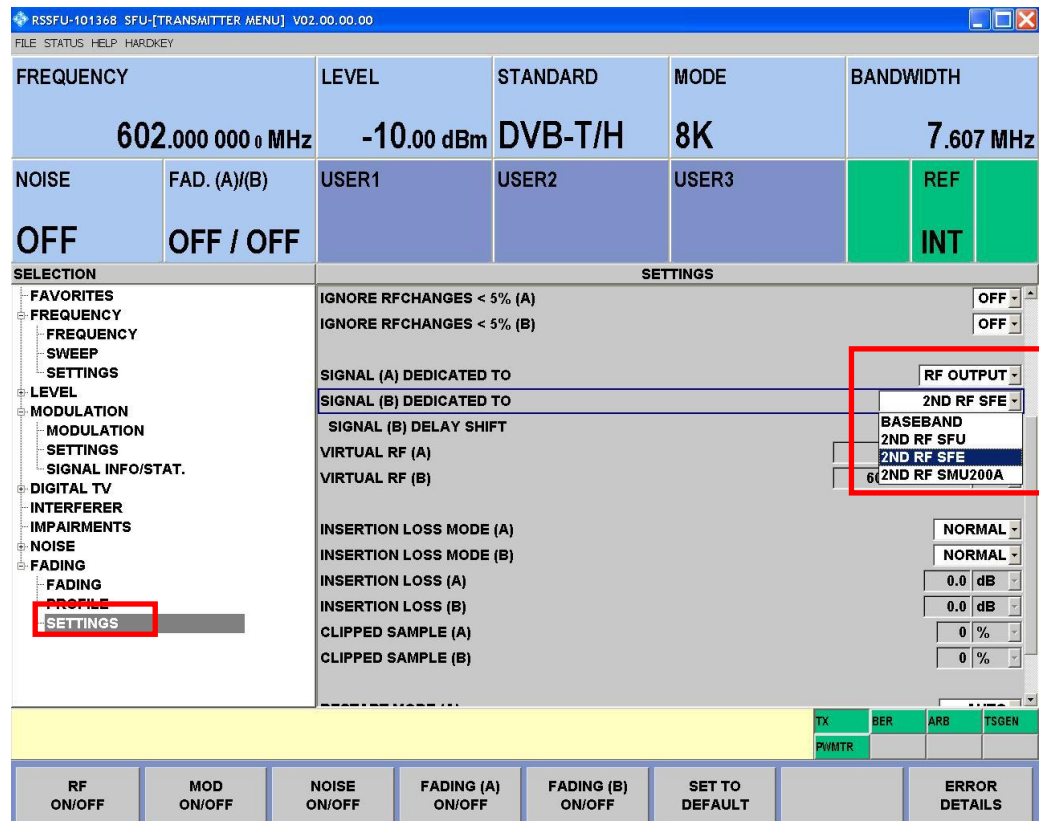

Fig. 5: Set *SIGNAL (A) DEDICATED TO* to "RF OUTPUT" and *SIGNAL (B) DEDICATED TO* according to the type of the second transmitter
This static shift can, however, be compensated with the aid of a dual channel oscilloscope connected to both RF outputs. This oscilloscope is required to determine the actual delay between the two transmitter signals. To account for the measurement instrument's possible bandwidth limitation, lower the RF frequency on the two transmitters temporarily to 10 MHz. Make sure that only one static path is active in both faders, so that identical signals are processed in the two different modulators. With those RF waveforms on the screen, the temporal offset can then be gradually decreased by changing the SIGNAL (B) DELAY SHIFT setting in the R&S®SFU menu shown in Fig. 5. Each step equals one sample duration and therefore comprises 10 ns.